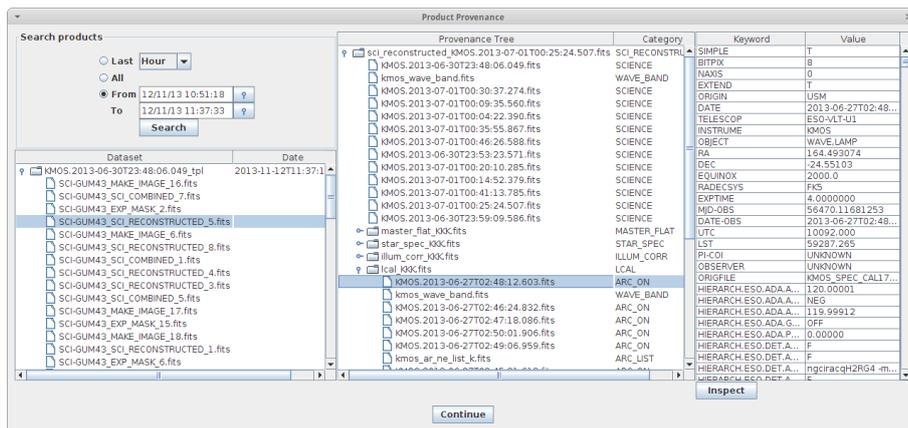

Figure 4.4: *The KMOS provenance explorer.*
9. When the reduction of the current `DataSet` finishes, a pop-up window called *Provenance Explorer* will appear showing the datasets which have been so far reduced together with the list of final products. This actor allows the user to inspect the final data products, as well as to search and inspect the input data used to create any of the products of the workflow. Figure 4.4 shows the *Provenance Explorer* window.